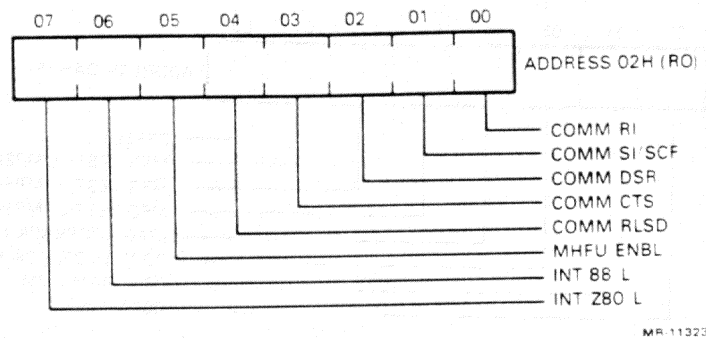

Figure 4-30 Communications Status Register (8088) Format
4.4.9.3 Communications Status Register: 8088 Processor – The communications status register is an 8-bit read-only register that stores the status of the modem control lines for the communications port, the interrupt line for each processor, and the MHFU enable signal. This register is accessed by performing a read to address 02H. The register bit format is shown in Figure 4-30 and the bits are described in Table 4-16.